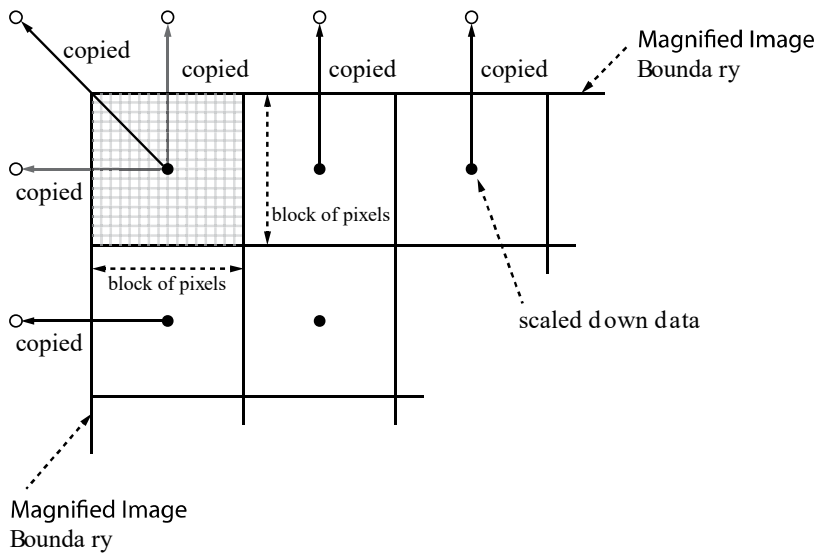

Figure 9-8 Bilinear Interpolated Magnification
3. Execute the Flat Field Data Save parameter to save the generated Flat Field data into the non-volatile memory. When the scaled down Flat Field data are used for correction, they are expanded and applied with a Bilinear Interpolation as shown in the Figure 9-8.